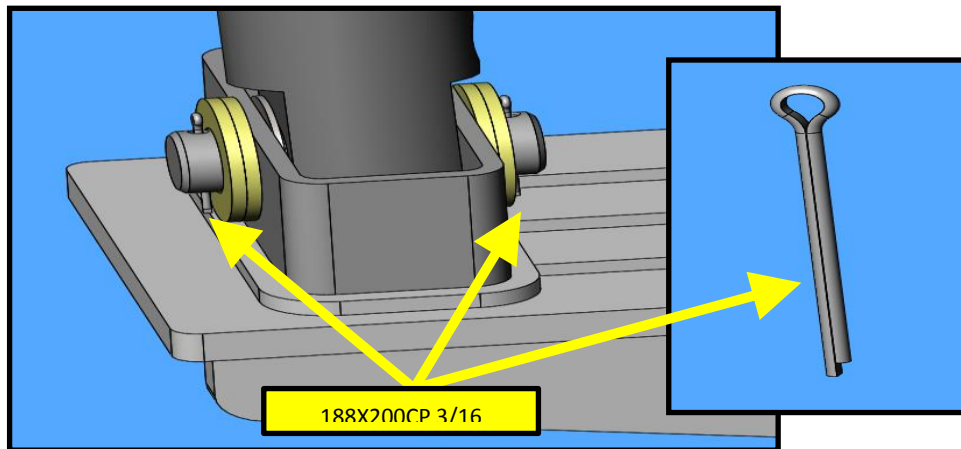

FIG. 6-2
10. After 1283-EE1-001 lower pin is installed, insert (2) 088X3200CP 3/16" X 2.0" cotter pins as indicated, then bend legs to prevent the cotter pins from falling out. Refer to FIG. 6-2.